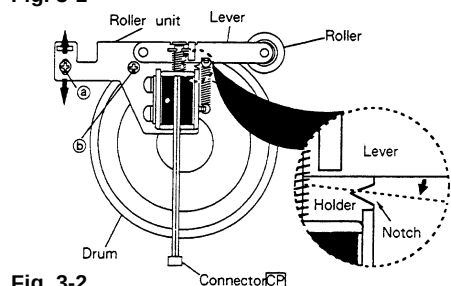

Fig. 3-2
3-2 Check and Adjustment of Roller Unit Position (Refer to Fig. 3-2.)
- Supply D.C.12V to the connector CP of the Roller Unit, as shown in Fig.3-2
- If the results above item (A to E) are below standards, loosen two screws (a) and (b) as shown in Fig. 3-2, and turn the roller unit around the screw (b) in the direction of the arrows. And adjust again.